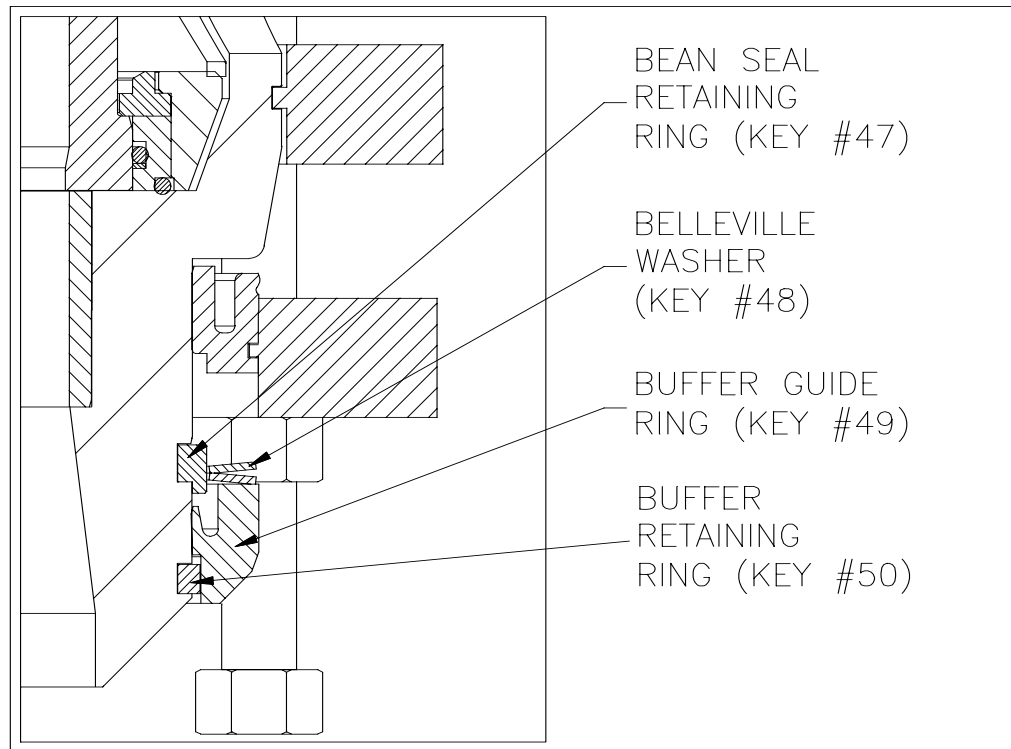

Figure 6.3: Buffer Ring Installation
5. Lubricate the area above the bean seal with Nickel 771 lubricant. Evenly tighten the 4 nuts to lift the bean seal. (See Figure 6.3).
6. Remove both segments of the bean seal retaining ring (item 47), which is a split ring assembly. (See Figure 6.3)
7. Lift the buffer ring (item 49) and remove both segments of the buffer retaining ring (item 50), which is a split ring assembly. (See figure 6.3)
8. Slide the buffer ring (item 49) from the insert and remove the Belleville washers (item 48). (See Figure 6.3)
5. Slide Belleville washers (item 48) onto insert in alignment as shown in figure 6.3.
6. Slide buffer ring (item 49) on to insert. (See Figure 6.3).
7. Install buffer guide ring retaining ring (item 50). (See Figure 6.3).
8. Slide buffer guide ring and Belleville washers down to retaining ring and install bean seal retaining ring (item 47). (See Figure 6.3).